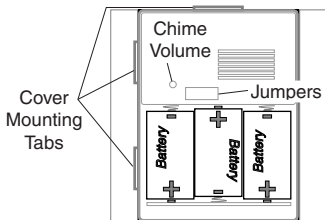

Figure 2
2. **Install 3 alkaline "D" batteries.** Make sure batteries are oriented properly (see Figure 2).
5. Replace batteries (see Figure 2). Place chime cover over base.